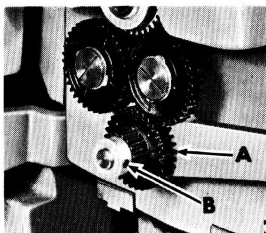

Figure 4
6. Remove compound gear (A, fig. 4) by loosening set screw (B) in collar and replace with compound gear supplied with quick-change.